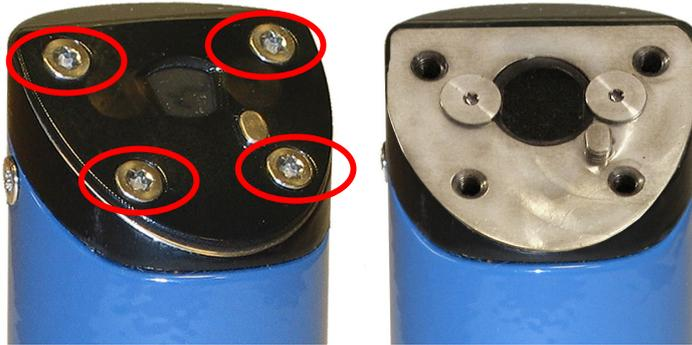

Figure 6-2 Removing the securing plate and change the sensing foil.
- The sensor foil is changed by unscrewing the 4 torx screws in the securing plate, refer Figure 6-2. Remove the securing plate and the old foil.